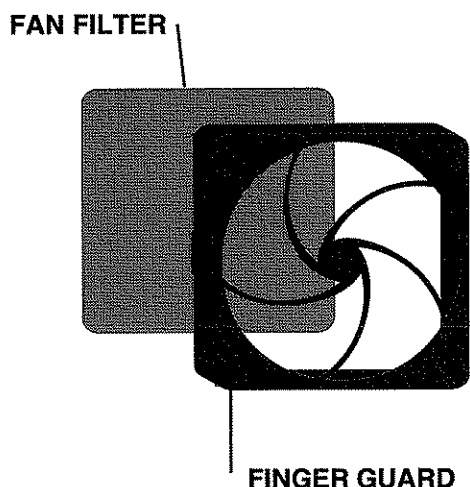

FIGURE 25:
1. Snap the finger guard containing the filter off of the fan as shown in FIGURE 25.